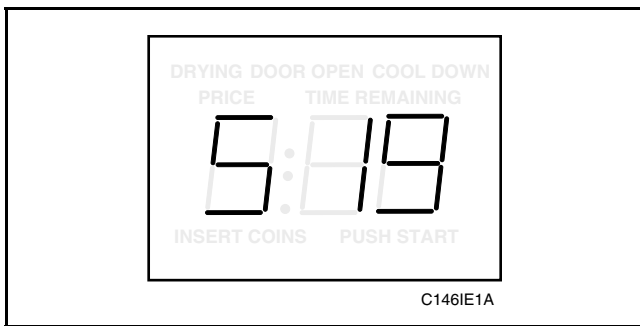

Figure 43
- While pressing and holding the HIGH TEMP pad with one hand, press the MED TEMP pad with the other hand. Programmable option number 1, (Audio Signal “SIg”), will appear in the VFD, *Figure 43*.